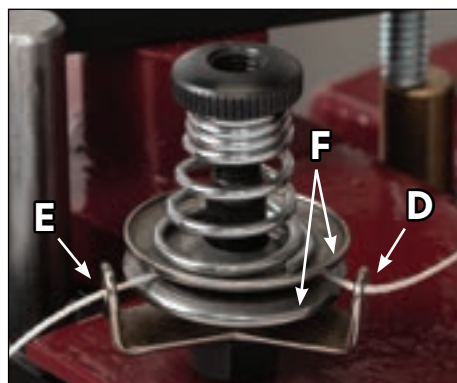

Figure 7
- 2) Run thread through Tensioner Eyelet 1 **(D)**, around the Tensioner and through Tensioner Eyelet 2 **(E)**. Make sure thread is pulled tightly in between the Tensioner Discs **(F)**. **(Figure 7)**